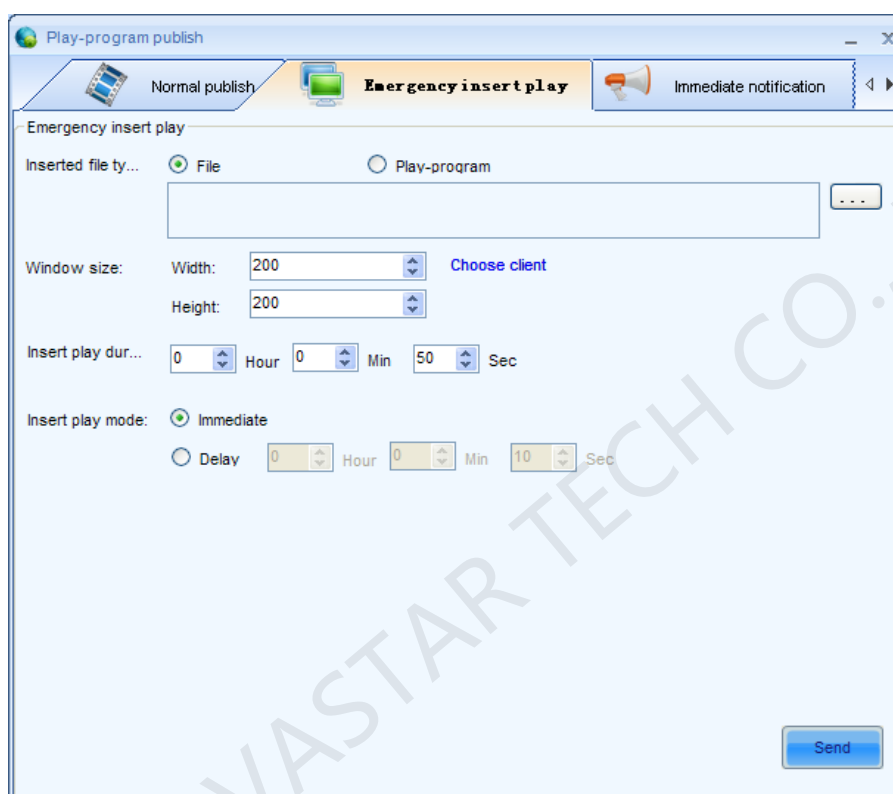

Fig. 10-70 Emergency insert play page
Return to Play-Program publish main interface shown in Fig. 10-70. Click the **Emergency insert play** to enter the emergency insert play page;
- 2) After inserting media files, click **OK** to return to the emergency insert play page as shown in Fig. 10-70. Click **Choose client** to read the display size of client who need the insert play.
Select Play-Program in Fig.10-70 Emergency insert play page, and click  to insert Play-Program. The following steps are same to those of insert files.